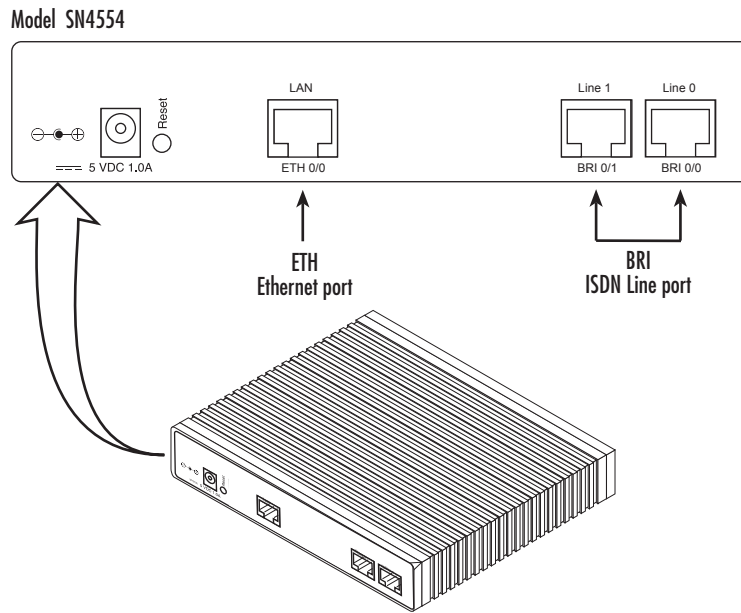
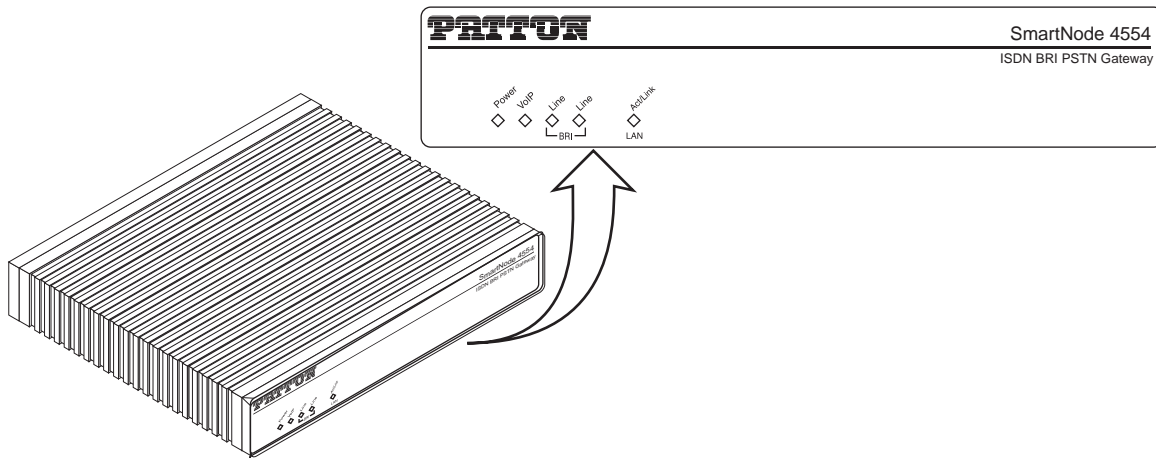

Figure 2. SN4554 rear panel
Figure 3. SN4554 front panel
The SN4554 is an ISDN BRI PSTN Gateway for home or home-office use that supports two VoIP calls via a single ISDN BRI port (see figure 2). The SN4554 rear panel ports are described in table 2.
| ETH (LAN)   | Switched Auto-MDX Fast-Ethernet port, RJ-45 (see <a href="#">figure 2</a> ), connect the unit to an Internet Telephony Service Provider (ITSP) [via an xDSL or cable modem] or a remote IP-PBX [via a private corporate network].  |
| BRI (Line)  | ISDN BRI/S0 port. RJ-45 connector presents the NET (User) side of the S/T interface (see <a href="#">figure 2</a> ) for connecting the SN4554 to a PBX NT port or an ISDN BRI NT.  |
| 5V DC, 1.0A | The SN4554 has a 5V DC 1A power input (see <a href="#">figure 2</a> ).   |
| Reset       | The reset button (see <a href="#">figure 2</a> ) has three functions: <ul style="list-style-type: none"> <li>Restart the unit with the current startup configuration—Press (for less than 1 second) and release the Reset button to restart the unit with the current startup configuration.</li> <li>Restart the unit with factory default configuration—Press the Reset button for 5 seconds until the Power LED (see <a href="#">figure 3</a> on page 16) starts blinking to restart the unit with factory default configuration.</li> <li>Restart the unit in bootloader mode (to be used only by trained SN4554 technicians)—Starting with the unit powered off, press and hold the Reset button as you apply power to the unit. Release the Reset button when the Power LED starts blinking so the unit will enter bootloader mode.</li> </ul> |
Figure 3 shows SN4554 LEDs, the LED definitions are listed in table 3.
The SN4554 comes with two ISDN BRI (TE) ports located on the rear panel (see figure 2 on page 15) for connecting to the NT of an ISDN PBX or ISDN NT. Install the connection as follows:
1. Using an ISDN cable (see Appendix C, “Cabling” on page 45) connect the BRI (TE) port on the SN4554 to the NT PBX or ISDN NT.
1. Insert the barrel-type connector end of the AC power supply into the *5V DC, 1.0A* port (see figure 2 on page 15).